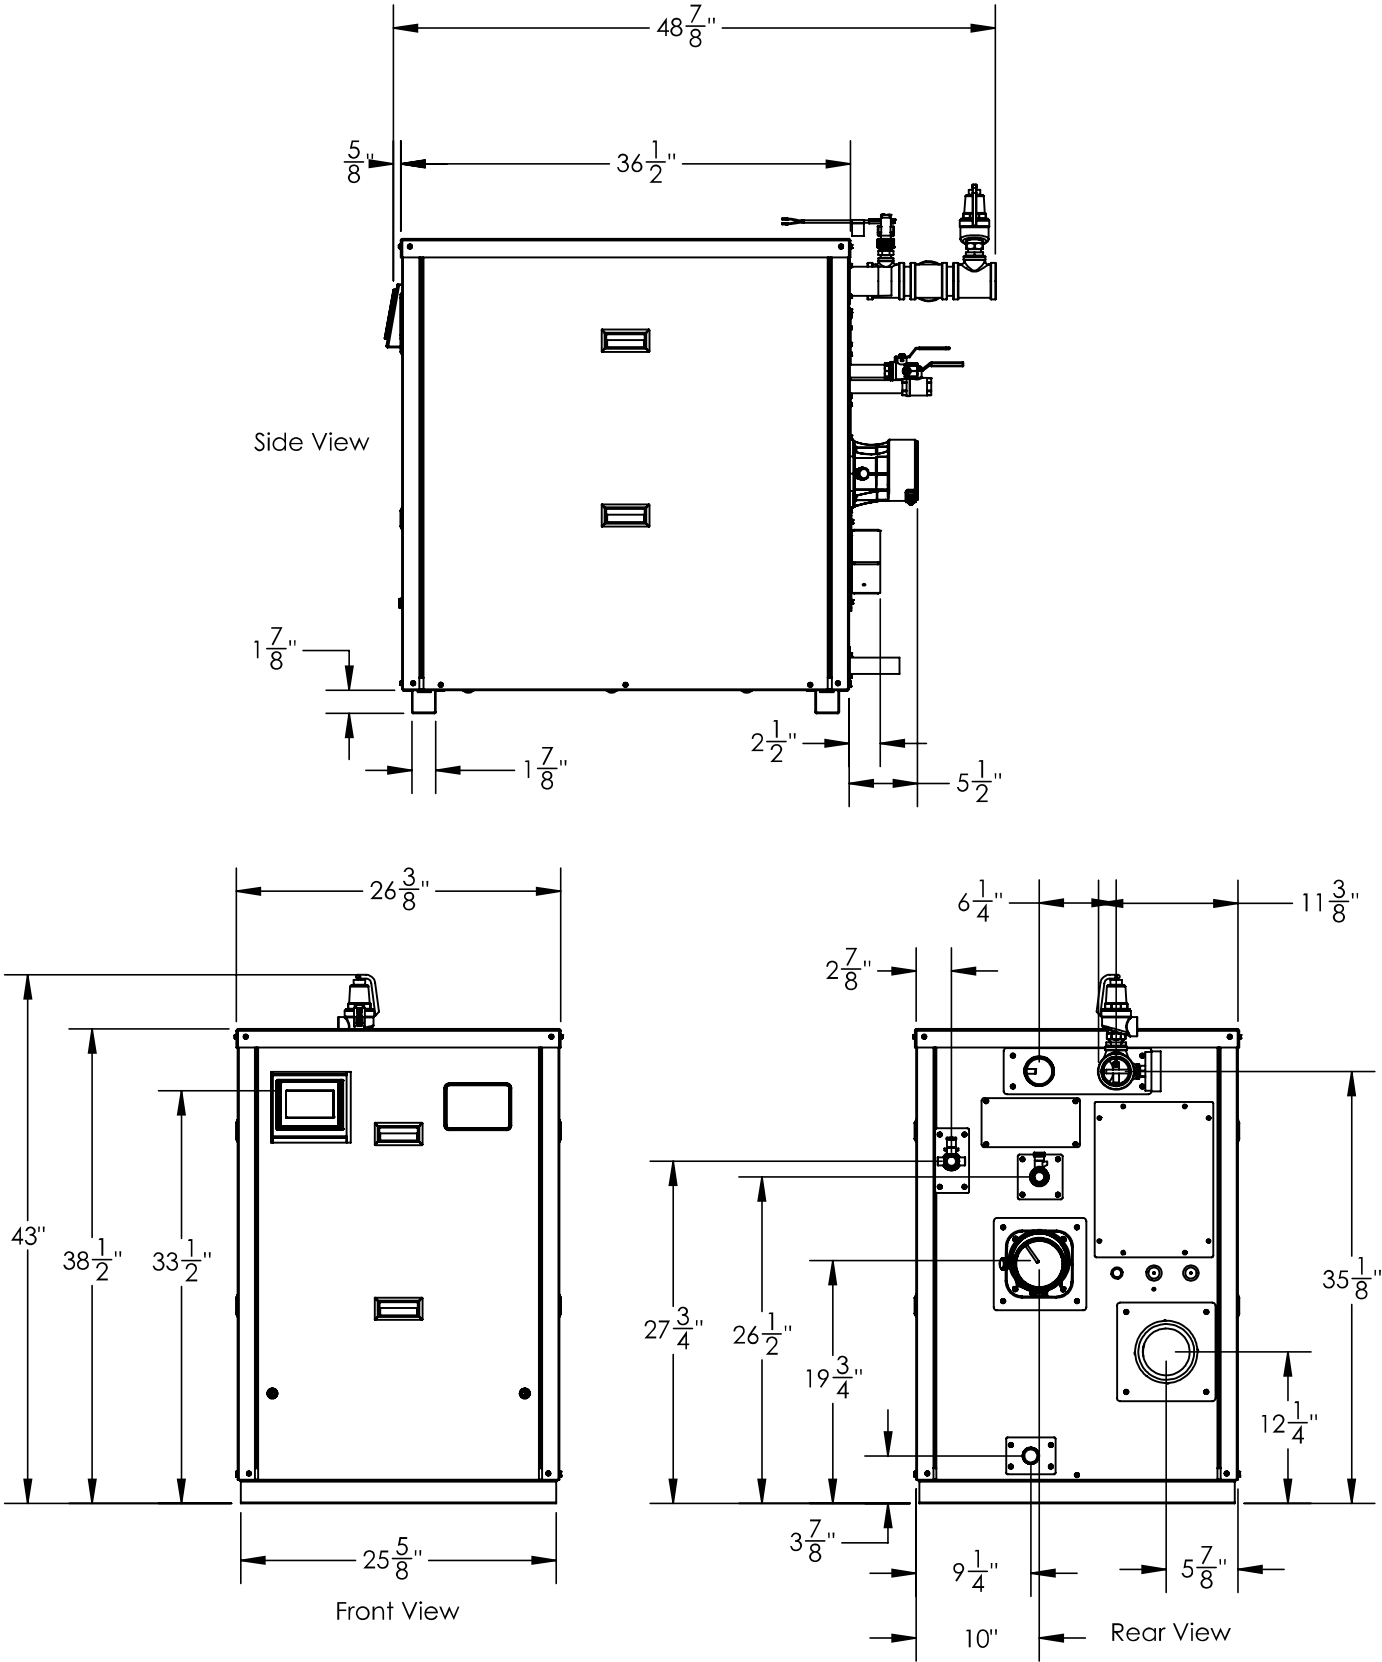
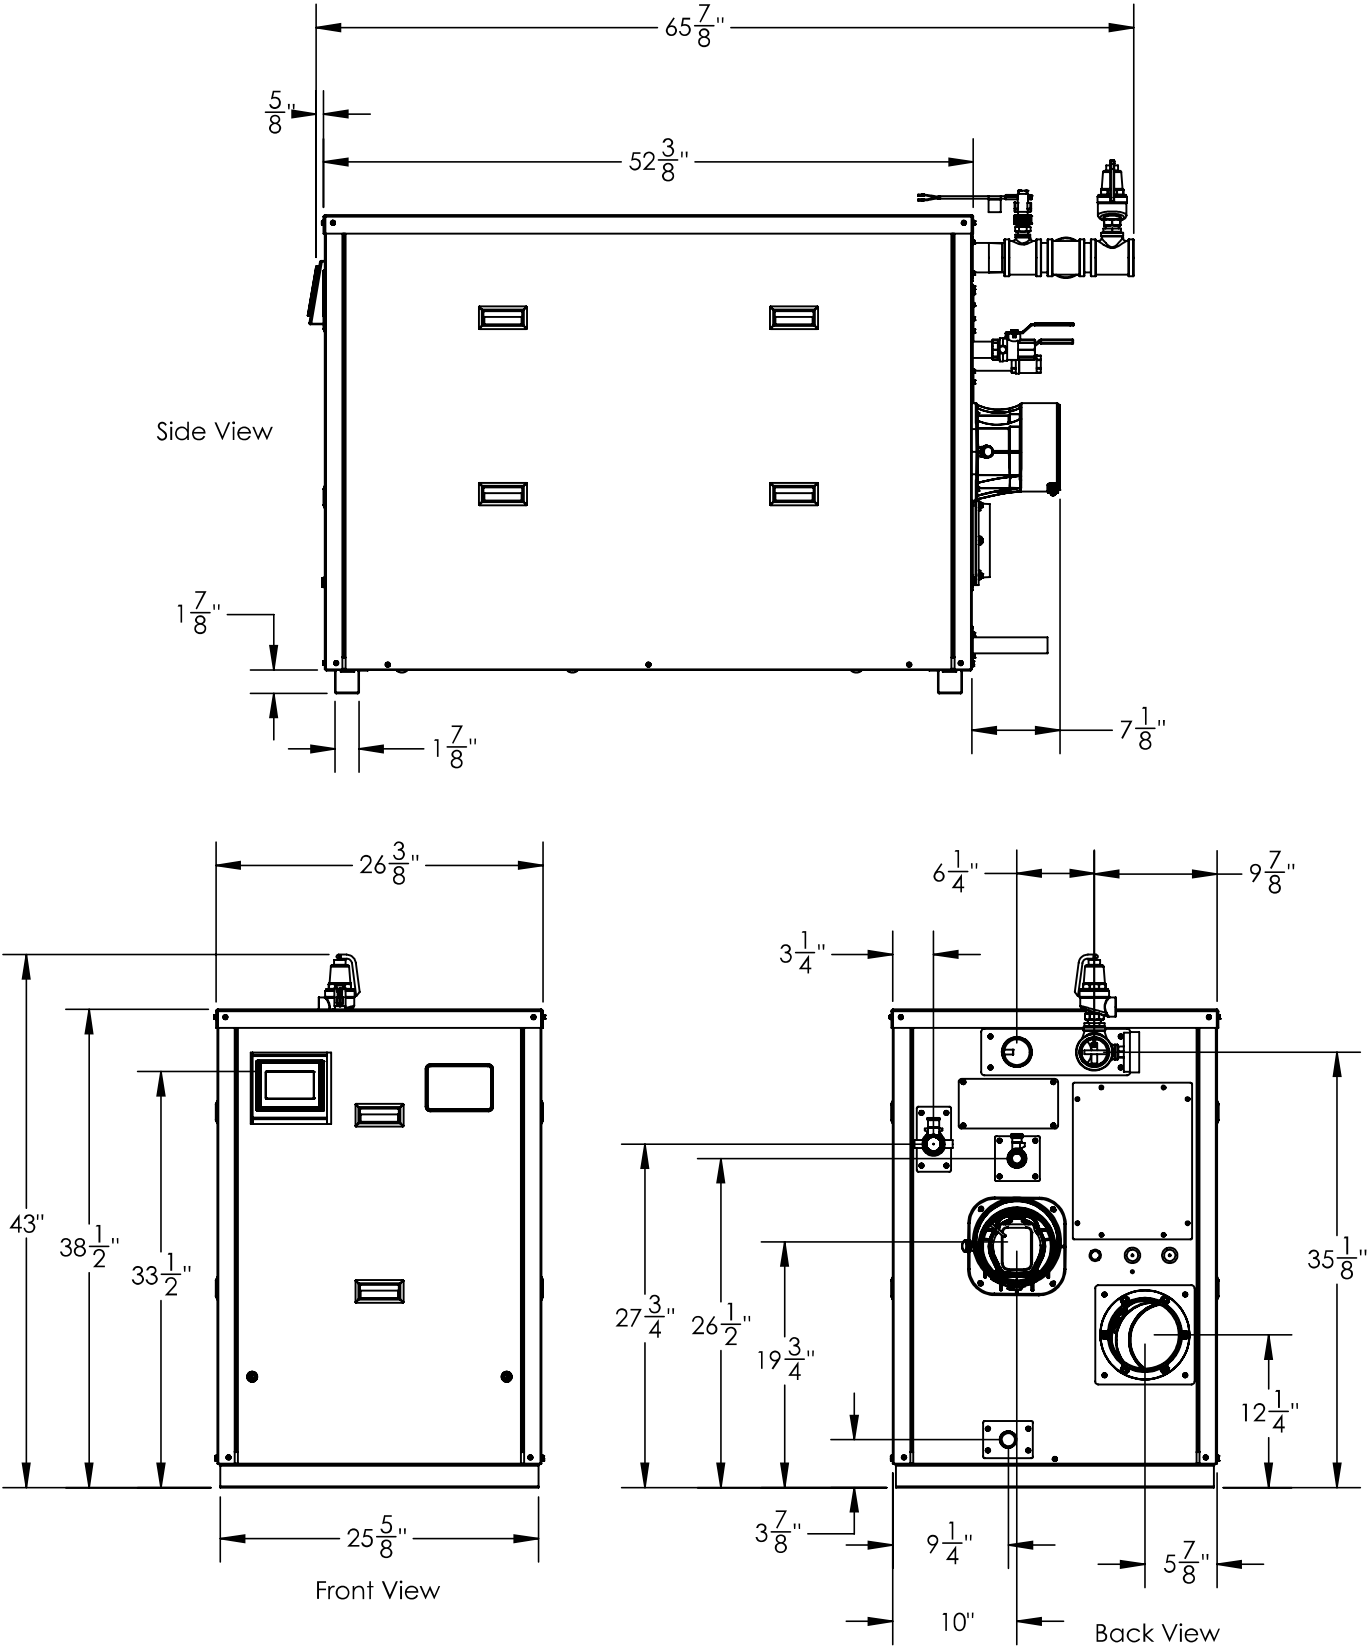

Figure 1: Citadel 400-500 Dimensions
Figure 2: Citadel 650-1000L Dimensions
6. Ensure the included polypropylene vent adapter is installed in the proper orientation. The clamp screw faces down, and the test port faces right (Gas train side). See Figure 1 and Figure 2.